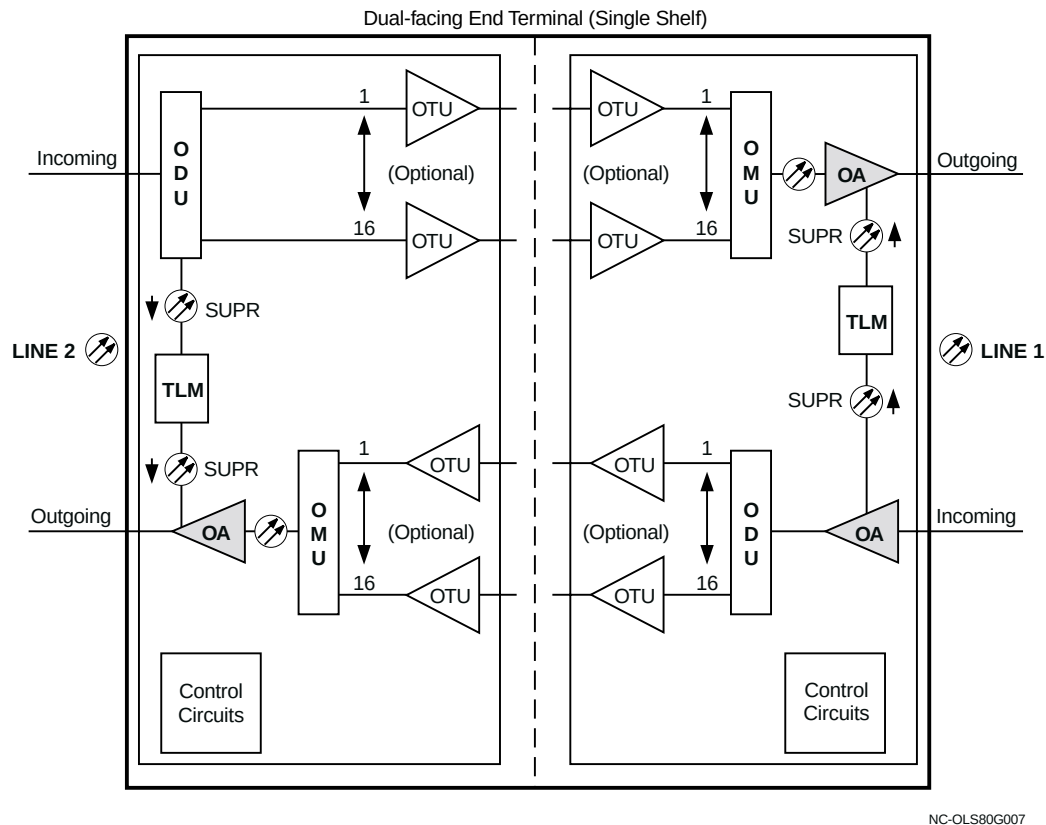
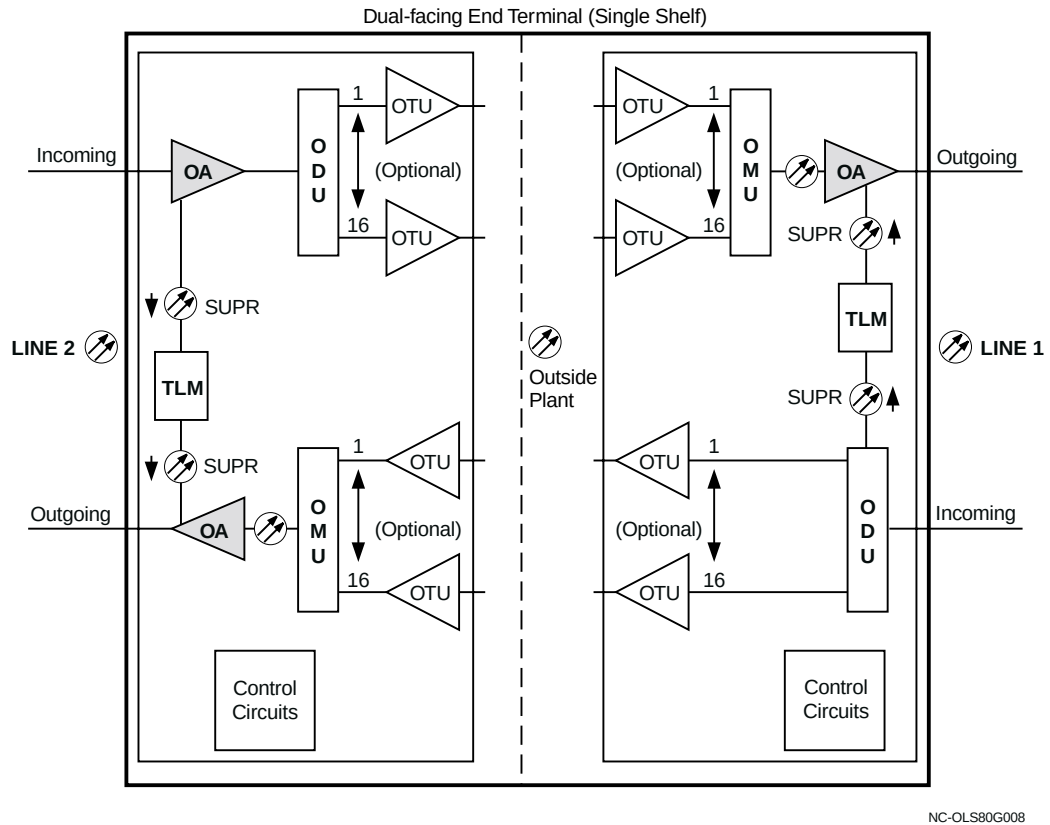

Figure 2-5. Two-OA/Single-OA Dual-facing Shelf*
Figure 2-6. Single-OA/Two-OA Dual-facing Shelf*
Figure 2-5 illustrates a dual-facing shelf configuration utilizing one OA circuit pack on one bidirectional line (Line 2 in Figure 2-5) and two OA circuit packs on the other (line 1 in Figure 2-5).
* In Figure 2-5 (Optional) denotes that OTUs are not required when the transmitter/receiver of the optical channel source are OLS-compatible. The label OTU is used here to refer to OC-48/STM-16 OTUs or GbE OTUs or OC-12/STM-4 OTPMs or OC-3/STM-1 OTPMs, or LSBB OTPMs.
Figure 2-6 illustrates a dual-facing shelf configuration utilizing two OA circuit packs on one bidirectional line and one OA circuit pack on the other. This configuration is similar to the one shown in Figure 2-5; the OA circuit pack arrangement has been switched between lines.
* In Figure 2-6 (Optional) denotes that OTUs are not required when the transmitter/receiver of the optical channel source are OLS-compatible. The label OTU is used here to refer to OC-48/STM-16 OTUs or GbE OTUs or OC-12/STM-4 OTPMs or OC-3/STM-1 OTPMs, or LSBB OTPMs.